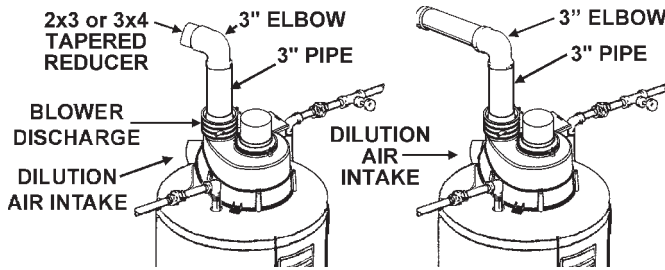

FIGURE 15.
3. Make sure there is no packing material in the discharge of the blower or the intake of the dilution air restrictor, see Figure 15.
Figure 15 shows the optimal placement of the 2" to 3" or 3" to 4" reducer; however, the vent can be reduced at any point in the vent system as long as the maximum and minimum vent length requirements are met.
Except where instructed in this manual, the mixing of 2", 3" and 4" vent pipe is NOT ALLOWED. If 2" pipe is to be used, then a 2" to 3" bell reducer is recommended. Figure 15 shows the recommended
If 4" pipe is to be used, then a 3" to 4" bell reducer is recommended. Figure 15 shows the recommended location for the bell reducer. If the bell reducer is located at the rubber boot on the blower assembly, then a short section of 3" vent pipe needs to be installed in the rubber boot for proper connection of the 3" to 4" bell reducer. That length can be of the minimum length required for the connection.